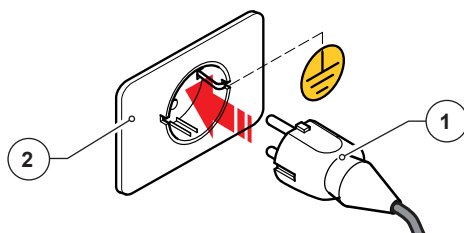

Fig. 9
- Insert the power cable plug (Fig. 9 Item 1) to the wall socket located in the place of use (Fig. 9 Item. 2);